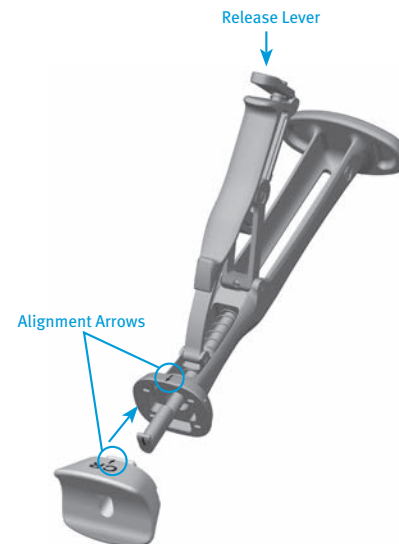

Fig. 69a
- Assemble the Femoral CR Impactor Pad to the Femoral Inserter/Extractor. Hold the Femoral Inserter/Extractor with the handle in the open position and insert the Femoral CR Impactor Pad, aligning the "CR" on the Femoral CR Impactor Pad with the arrow on the Femoral Inserter/Extractor (**Fig. 69a**). The Femoral CR Impactor Pad is keyed, so the Femoral CR Impactor Pad may have to be rotated while placing and aligning the Femoral CR Impactor Pad onto the Femoral Inserter/Extractor.